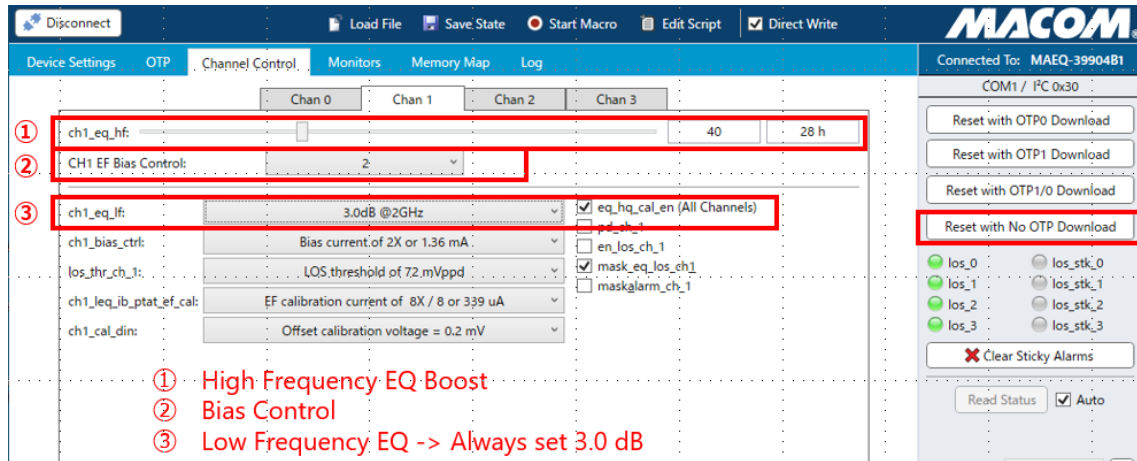

Figure 3.1-4 Channel Control tab
The high frequency boost can be controlled by using the slide bar or by inputting a decimal number between 1 to 127 (① in Figure 3.1-4). Channel control also allows control over the settings like, low frequency boost, bias control, and disabling the channel (② and ③ in Figure 3.1-4).